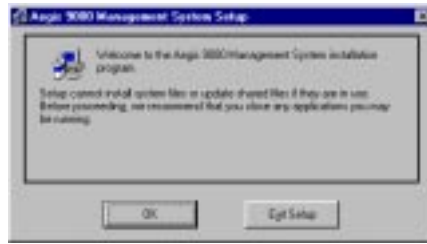

Figure 3.5
Step 4 You will see the dialog box as in figure 3.5. Click on **“OK”** to continue or **“Exit Setup”** to abort the installation.